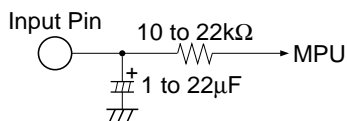

Figure 2 Interface for Reduction of Pop Noise
3. Reducing pop noise is so much better for 10 kΩ to 22 kΩ resistor and 1 μF to 22 μF capacitor shown figure 2.